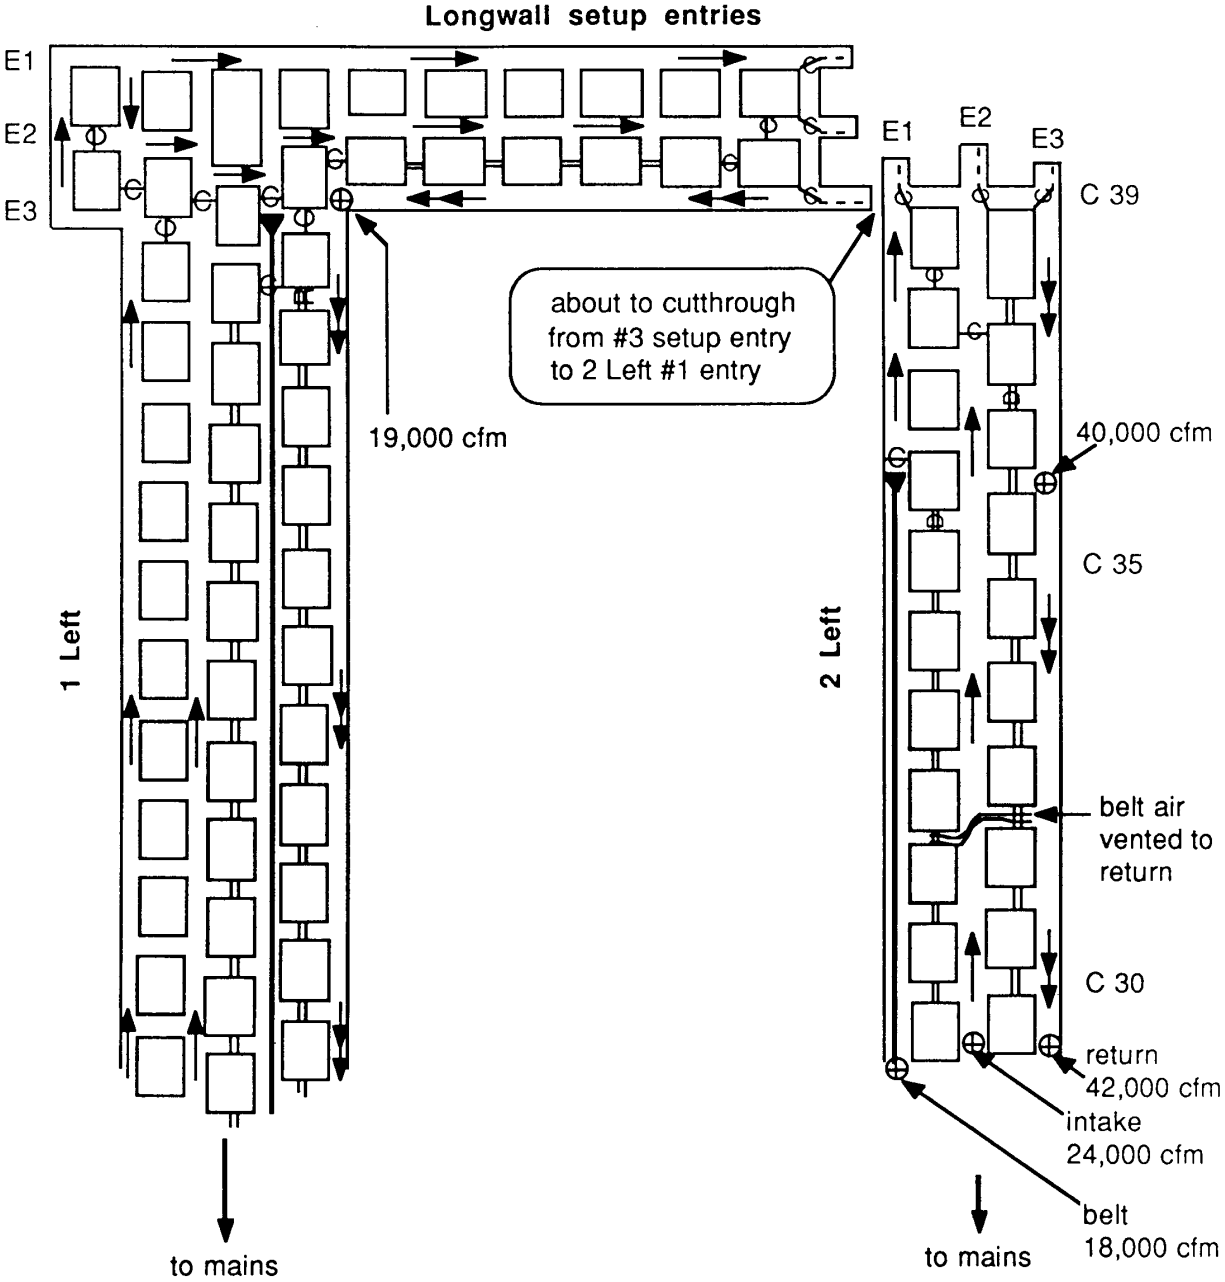
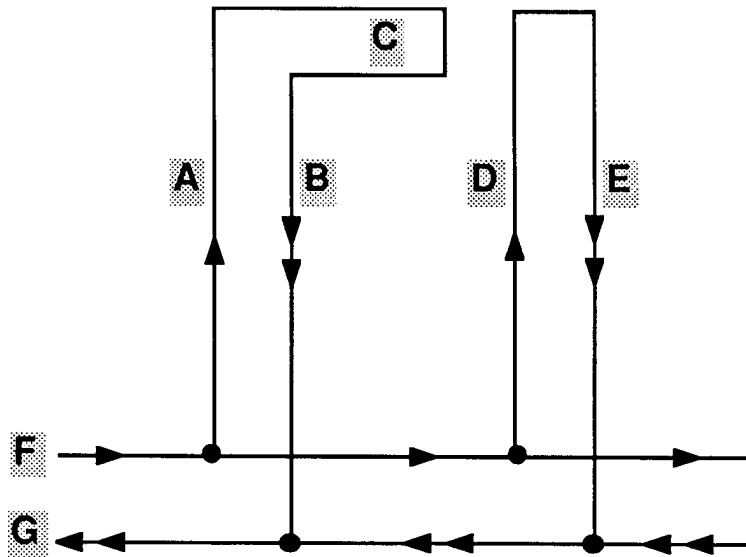
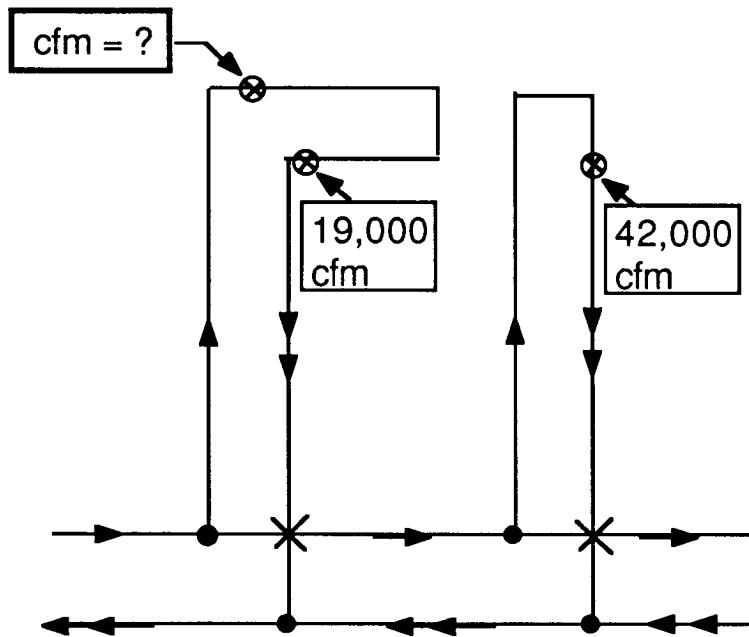

Figure 1: Mine ventilation before cutthrough from setup #3 entry to 2 Left section
Figure 2: Simplified ventilation schematic for the map shown in Figure 1
Figure 3: Estimate the airflow at the point indicated for the map shown in Figure 1
Look at the map in Figure 1 on the next page. It shows two sections being driven 4,800 feet from the mains to develop a retreating longwall panel. The 1 Left section has four entries with a single air split. The 1 Left section crew has finished the entries and most of the longwall setup entries that will soon connect 1 Left with 2 Left. The 2 Left section has three entries with a single air split. The mine is very gassy. It liberates from 2.6 to 3.2 million cubic feet of methane a day at the fan that exhausts 690,000 cfm. The rib of the longwall panel along entry #1 in 2 Left section is especially gassy.
This exercise asks you questions about the ventilation arrangement for the sections shown in Figure 1. Study the map in Figure 1 on the next page. Then do the first question. Do each question in order. Don't jump ahead, but you may look back to earlier questions you have completed.
Figure 2 is a schematic diagram of the map in Figure 1. Study both Figures 1 and 2. Then read the four statements on this page. Select the one true statement. (Choose only ONE unless you are told to “Try Again!”)
1. The return air entry for 2 Left section is marked **D** in Figure 2.
2. The mains from which 1 Left and 2 Left sections are ventilated are marked **F** and **G** in Figure 2.
3. The longwall setup entries in Figure 2 are marked with an **A** and **B**.
4. The overcasts where the return air in 1 Left and 2 Left cross the main intakes are shown as black dots in Figure 2.
Look at Figure 1 again. Then look at Figure 3. Approximately how many cfm of air should be present in the 1 Left intake air entry at the point indicated on Figure 3? (Choose only ONE unless you are directed to "Try Again!")
Look at Figure 1 and Figure 3. Remember that the intake air entries for both 1 Left and 2 Left sections get their air from the same intake aircourse in the mains and that both sections also exhaust their return air into the same return aircourse in the mains. Assume the length and cross sectional areas of the two sections are the same.
Using the information about airflow distribution in Figures 1 and 2, where is there most likely to be a regulator? (Choose only ONE unless you are directed to "Try Again!")